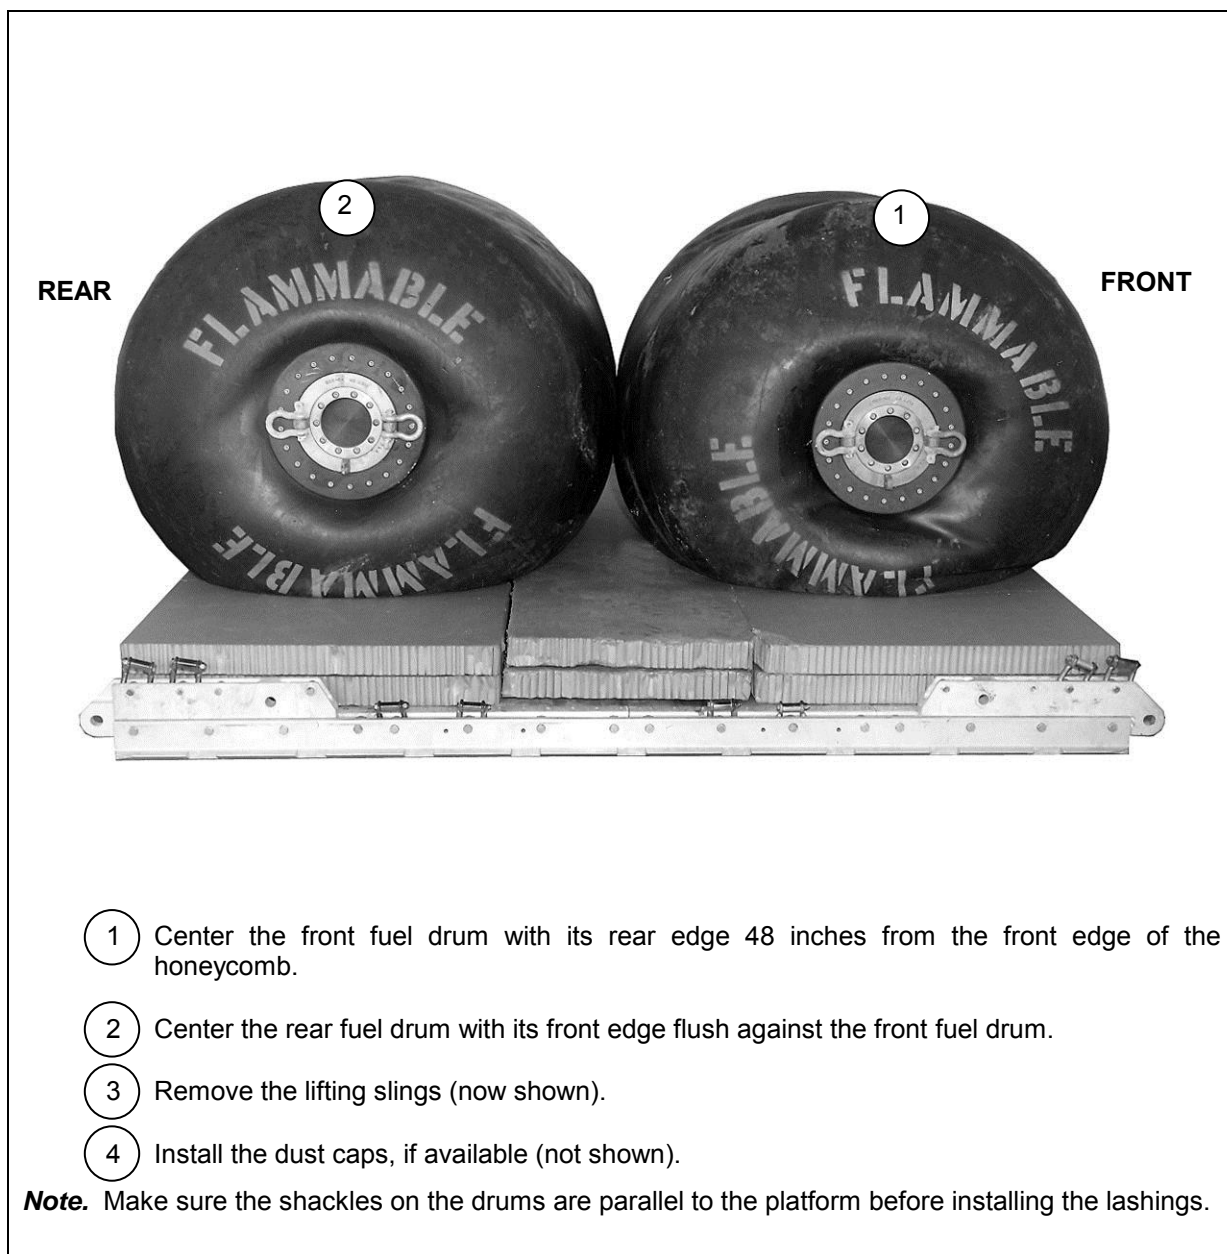

Figure 2-4. Fuel Drums Positioned
- Positioning Drums. Position the fuel drums on the platform as shown in Figure 2-4.